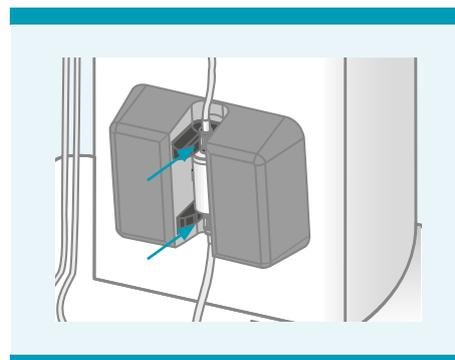

Figure 7.4: Separation column in separation column holder
3. Place the pre-column into the holder (see Figure 7.4).
1. Insert the separation column into the separation column holder (see Figure 7.4).